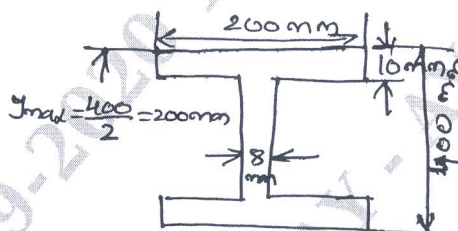

Fig.Q6(b)
b. The cross section of beam as shown in Fig.Q6(b). If permissible stress is 150 N/mm^2 . Find its moment of resistance compare it with equivalent section of same area for a square section.